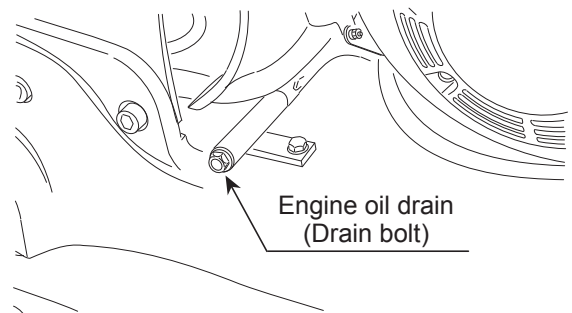

Figure 24. Draining Engine Oil
1. Remove the oil drain bolt (Figure 24). and sealing washer and allow the oil to drain into a suitable container.